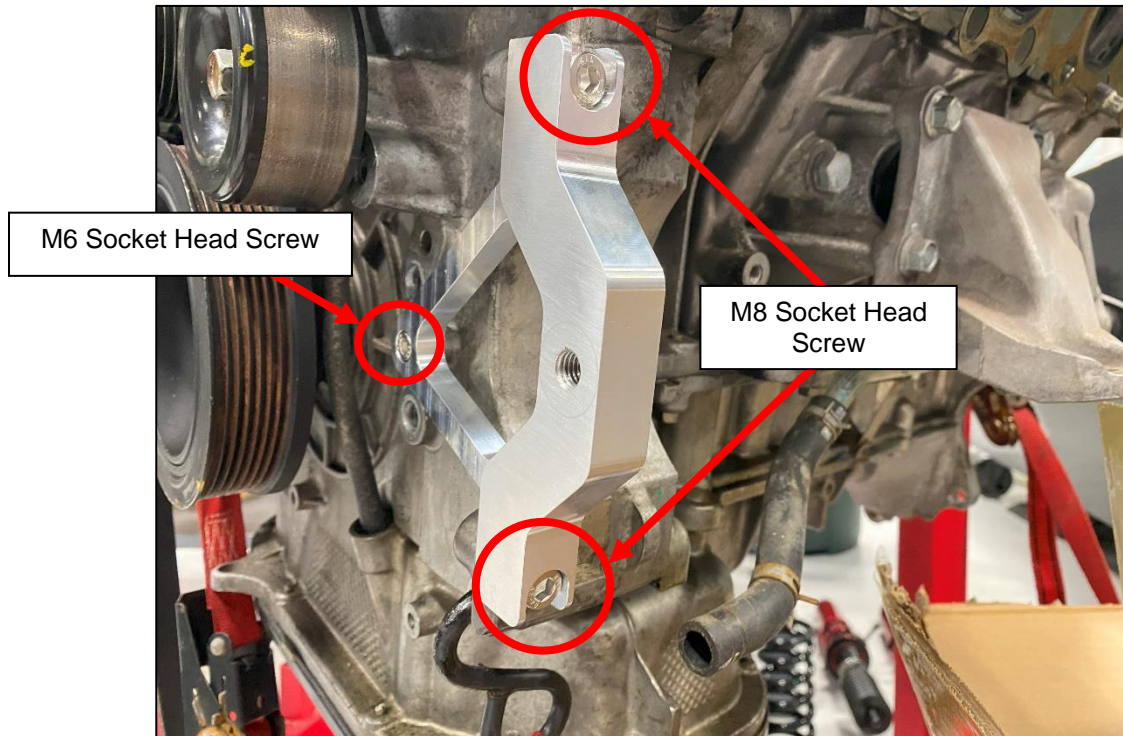

Figure 6
14. Locate the AC Delete Bracket, (1) one M6 x 1.0 Socket Head Screw, 12mm, and (2) two M8 x 1.25 Socket Head Screws, 25mm. Position the Bracket onto the mounting points for the AC Compressor removed in the previous step. Secure the Bracket to the Engine Block with the M6 Bolt and M8 bolts. Torque the M8 Bolts to **23 ft-lbs**. Torque the M6 Bolt to **9 ft-lbs**. *Figure 6.*